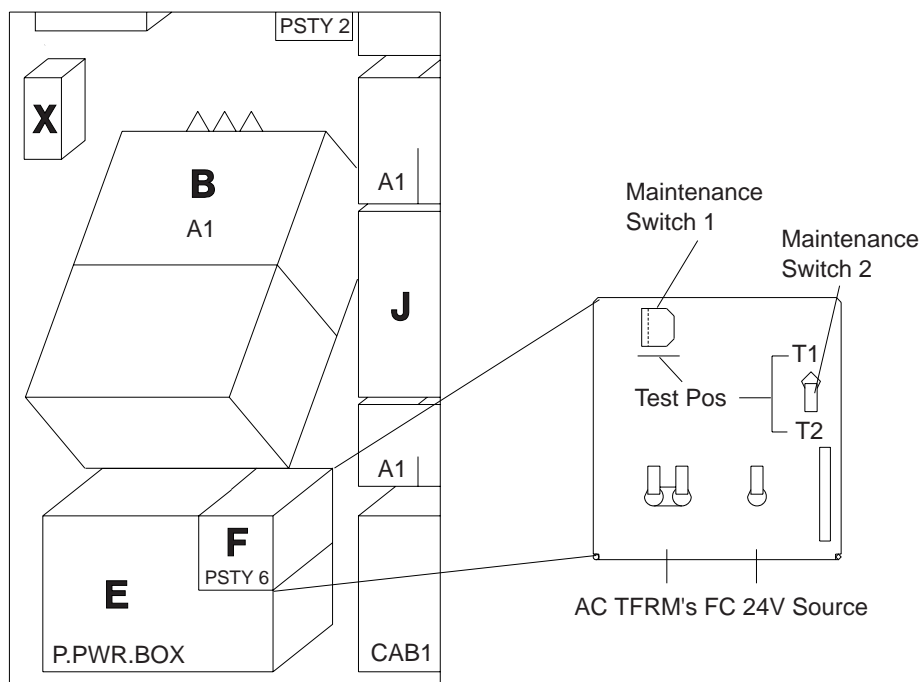

Figure 2-2. PS Type 6 SW1 Actuator
- Locate the **Maintenance SW1** on PS type 6. See Figure 2-2 on page 2-8. Pull the lever outwards into the **test position**. Locate the **Maintenance SW2** on PS type 6 and switch it to the **T1** position.